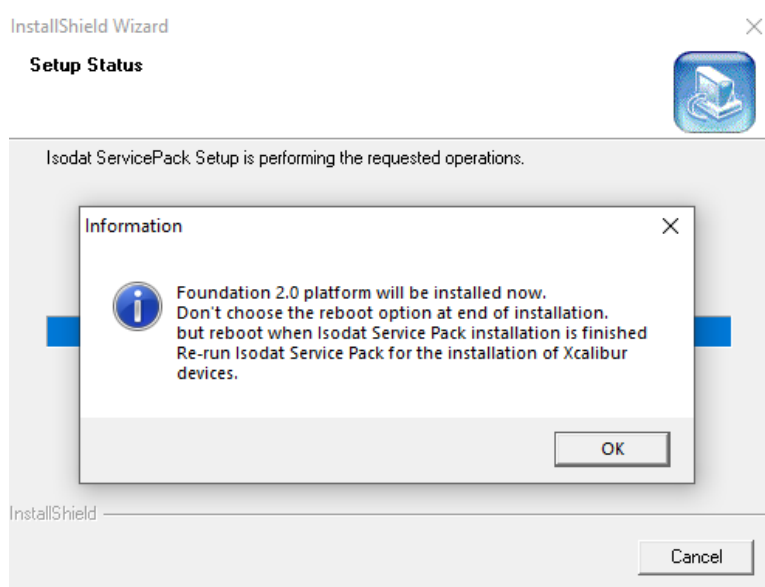

Figure 4-4. Isodat Service Pack - Installation Foundation 2.0 platform
7. After the installation procedure has finished, click **OK** in the **Information** dialog to proceed with the installation of the Foundation 2.0 platform, see Figure 4-4.